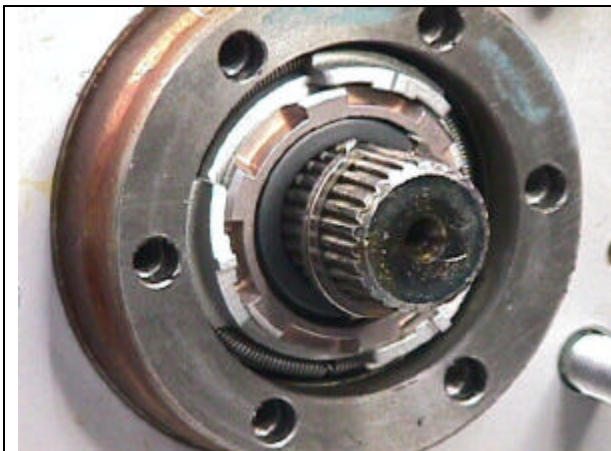

Figure 15
10. Install the axle shaft thrust washer, and snap ring onto the axle shaft as shown in Figure 15 and 16. Be sure the snap ring is properly seated in the groove of the axle shaft.